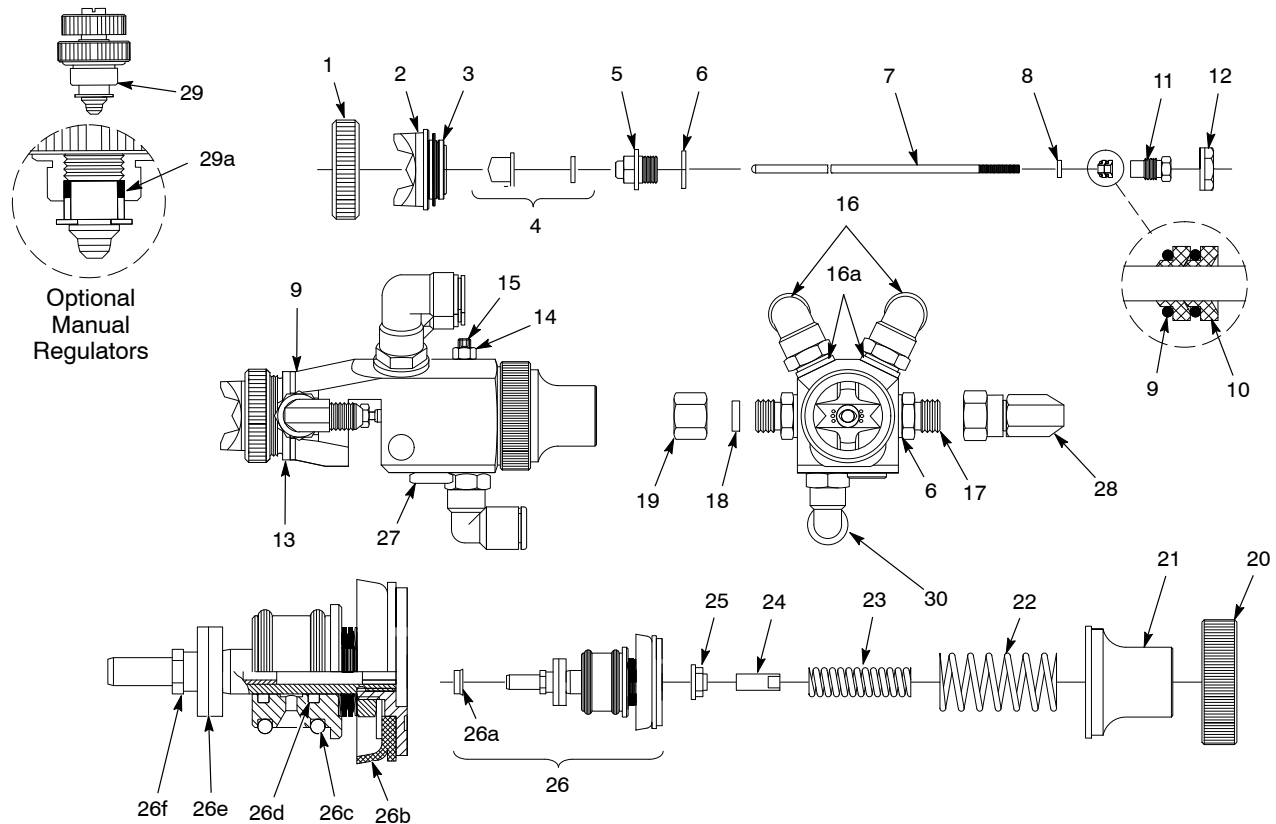

Figure 4 Trilogy AAA Automatic Spray Guns
These troubleshooting procedures cover only the most common problems. If you cannot solve a problem with the information given here, contact your local Nordson representative for help. See Figure 4 for parts information.
1. See Figure 4. Unscrew the air cap retainer (1) and remove it, the air cap and seal (2,3), and the nozzle (4) from the gun.
3. Inspect the air cap seal (3) and replace it if damaged.
1. See Figure 4. The spring cap (21) is under spring pressure. Carefully unscrew the spring retainer nut (20), and remove the spring cap.
2. Remove the large and small springs (22, 23). Grasp the guide nut (24) and pull the needle assembly (7, 24, 25) out of the gun.
3. Remove the guide nut (24) and stop nut (25) from the old needle and install them on the new needle.
1. See Figure 4. Remove the needle as described in *Needle Replacement*.
2. Unscrew the chamber nut (12) and slide it off the packing gland (11).
3. Remove the atomizing chamber (13) from the gun. Note the two O-rings (9) mounted in the grooves in the face of the gun body. Do not lose these O-rings. Replace them if damaged.
4. Unscrew the packing gland (11) from the atomizing chamber, and remove the two O-rings (9), two inverted cup seals (10), and gland seal (8) from the chamber.
2. Loosen the hex nut (14) on the retaining screw (15), then remove the retaining screw from the gun body.
1. See Figure 4. Remove the air cap and nozzle.
2. Unscrew the spring retainer nut (20) and remove the spring cap and springs (21, 22, 23).
3. Remove the seal retaining screw (5) and aluminum seal ring (6).